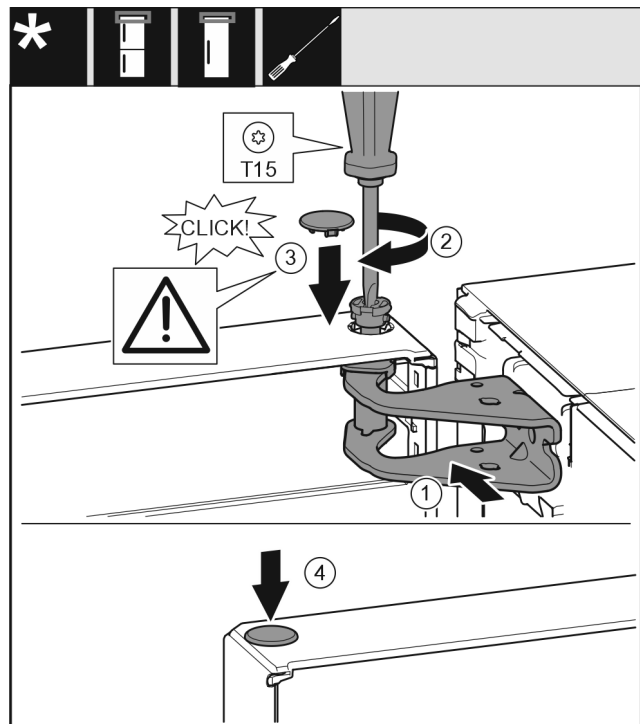

Fig. 27
- ▶ Align the top door with the opening in the swap bearing block Fig. 27 (1).
- ▶ Insert the bolt Fig. 27 (2) and use screwdriver to tighten it.
- ▶ Insert the cover Fig. 27 (3).
- ▶ Check that the cover Fig. 27 (3) is resting on the door.
- ▶ Insert the cover Fig. 27 (4).